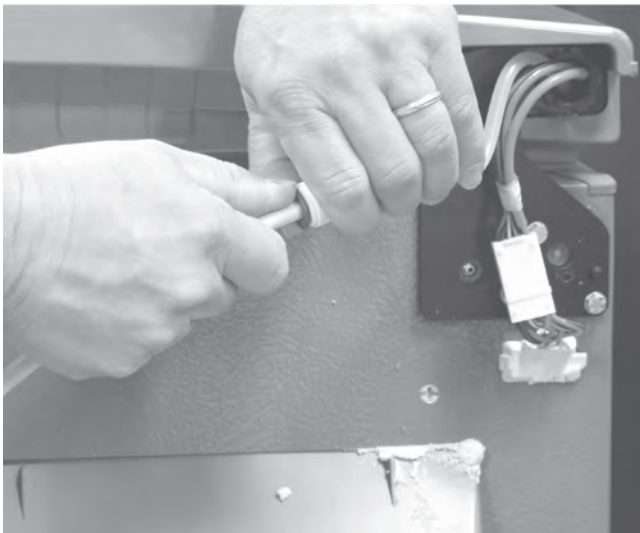

Figure 1
2. Disconnect John Guss Fitting, see figure 1.